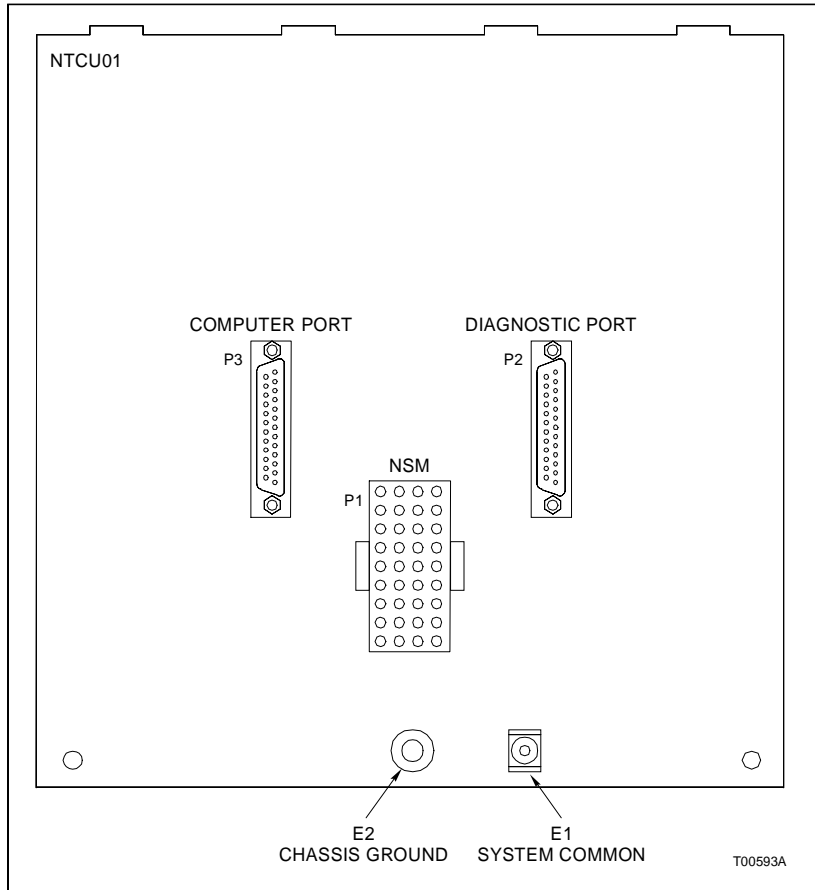

Figure 2-2. TCU Circuit Board Layout
1. Insert the socket connector end of the cable into P1 on the TCU circuit board. See Figure 2-2 for the location of P1 on the TCU circuit board.